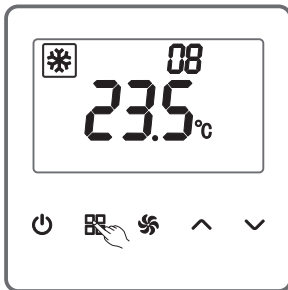

Figure 14
As shown in the Figure 14, on the parameter setting page, press  (MODE) to switch the option number to 08.  (UP) or  (DOWN) is provided to allow a rise or